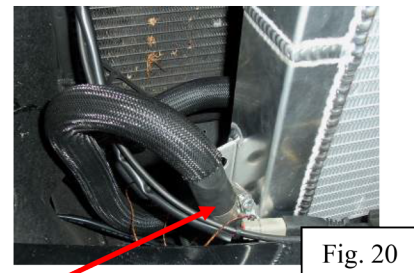

Fig. 20
21. Attach the factory outlet hose from the pump to the outlet of the heat exchanger using the supplied hose clamp (Fig. 20).